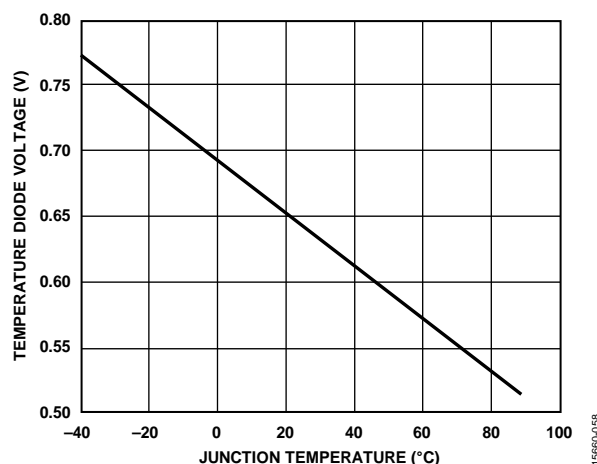

Figure 87. Typical Voltage Response of the 1× Temperature Diode
- Set Register 0x18E6 to 0x01 to turn on voltage export of the central 1× temperature diode. The typical voltage response of the temperature diode is shown in Figure 87. Although this voltage represents the die temperature, it is recommended to take measurements from a pair of diodes for improved accuracy. The following step explains how to enable the 20× diode.